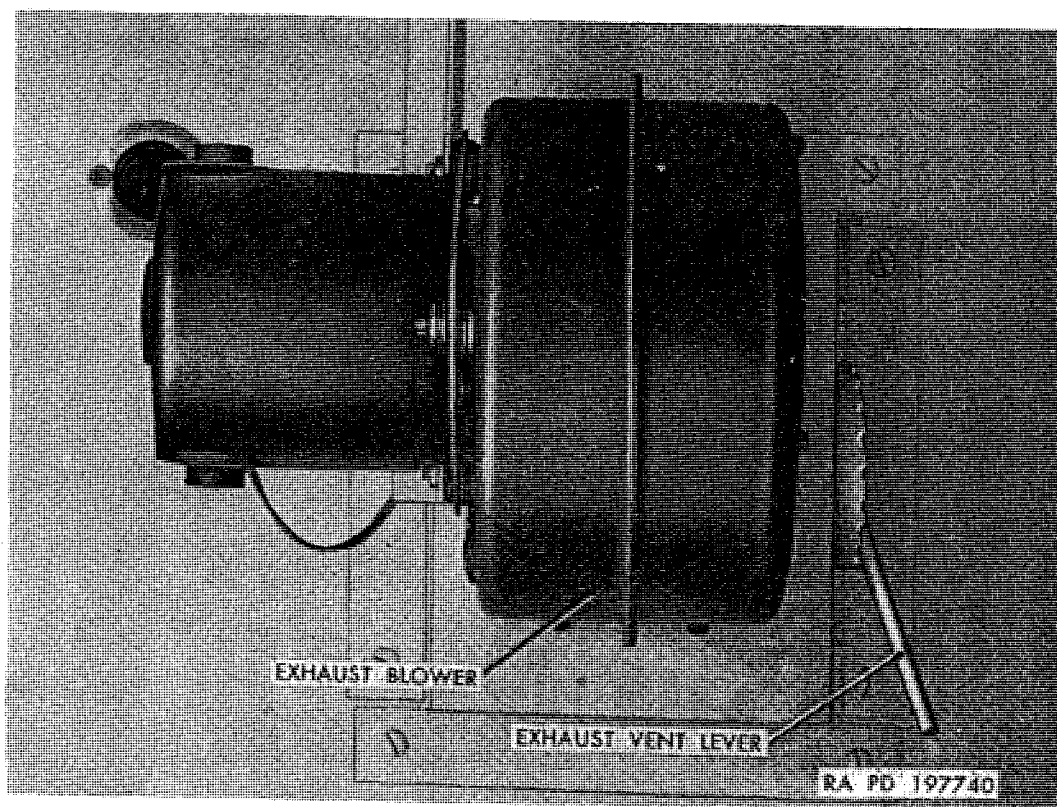

Figure 70. Exhaust blower installed.
d. Operation of Exhaust Blower. Exhaust blower (fig. 70) is mounted on left rear interior wall of body near roof. Outlet vent must be manually positioned.
- (1) Position outlet vent to degree of opening desired by pulling exhaust vent lever shown. Lever operates in notches in segment to provide various degrees of opening.